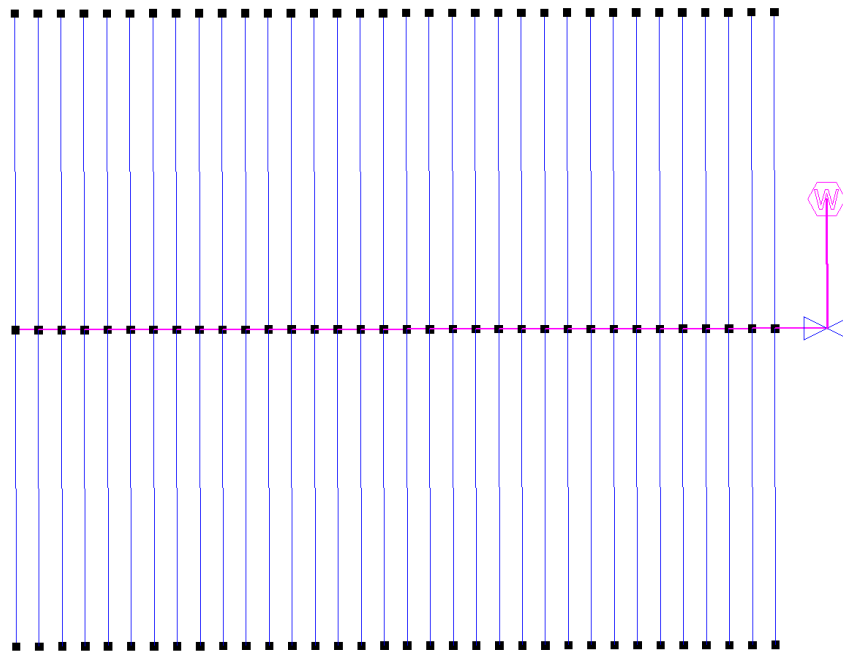

Figure 4-27
14. Select *Mainline/Water Supply* and place on the end of the mainline pipe with a left-click as in Figure 4-27. Leave the Water supply details as the default; simply click *[OK]*.